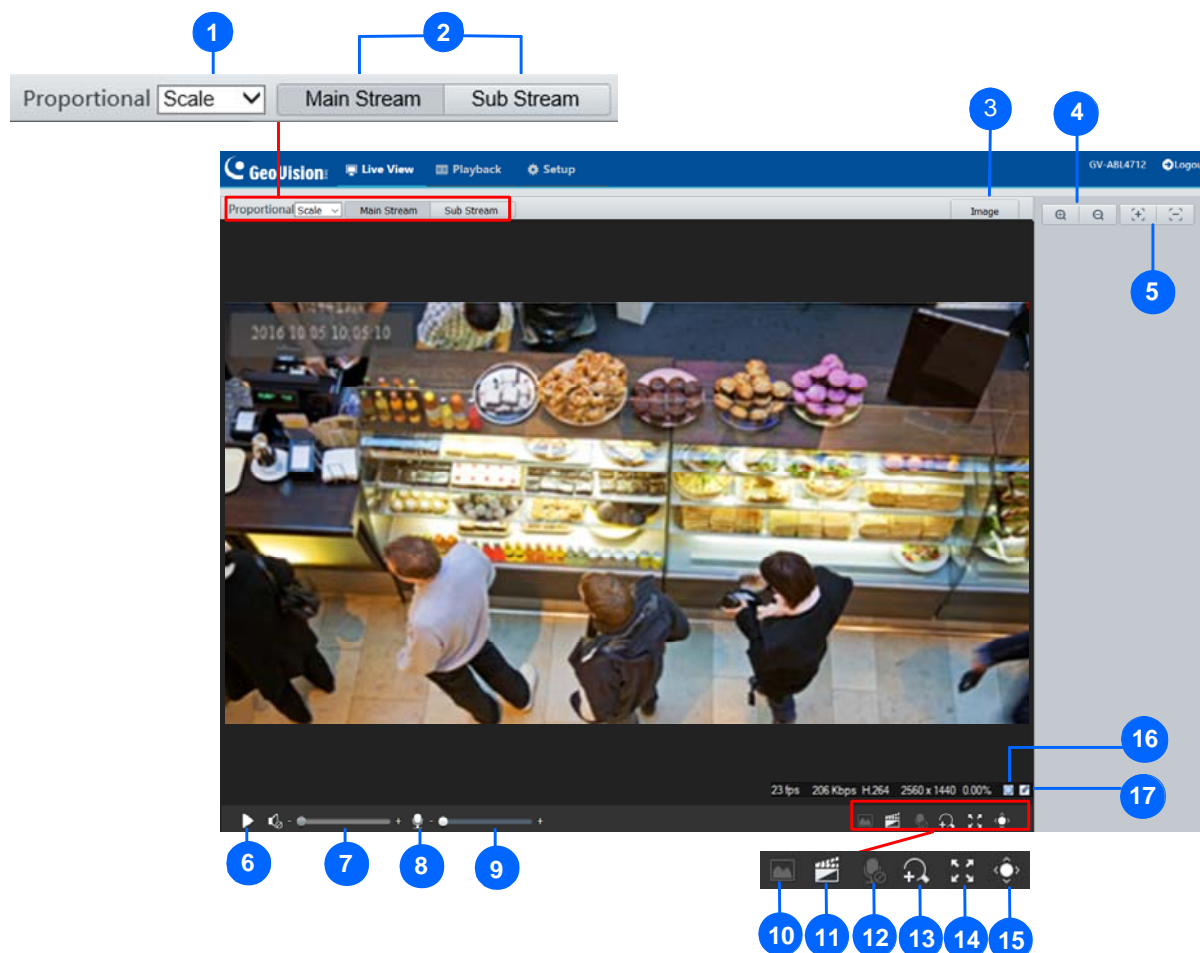

Figure 2-4
1. Click  (No. 13, Figure 2-4) on the toolbar.
4. To exit, click  (No. 13, Figure 2-4) on the toolbar.